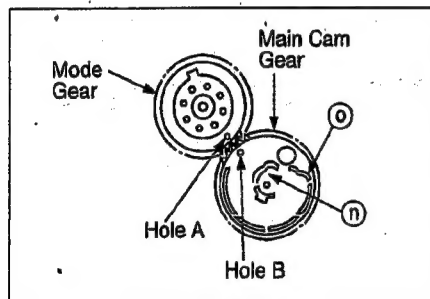

Fig. M31
16. Eject Arm Fig. M31 Unscrew screw (S) and remove Radon Arm Unit.
- (Note of installation) Fig. M31 Install the Main Cam Gear so that the hole A on the Mode Gear is aligned to the hole B on the Main Cam Gear.